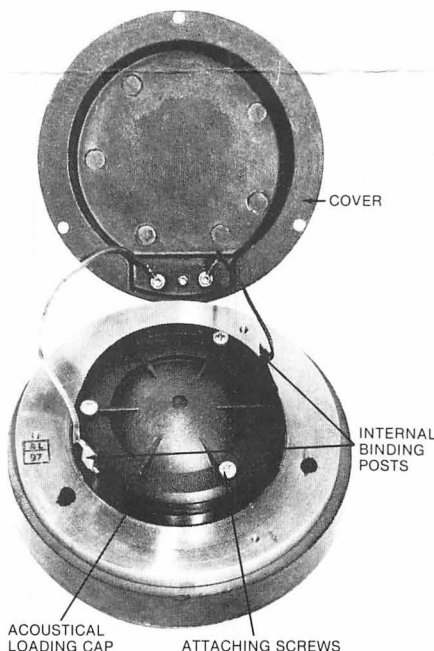
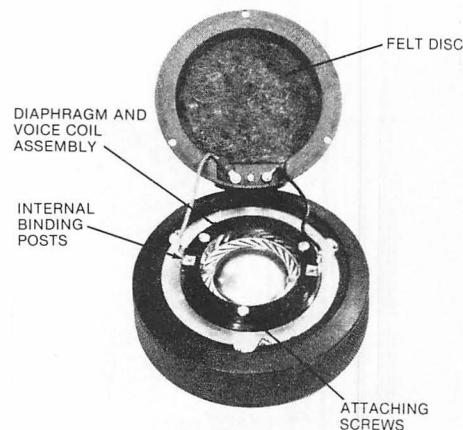

Figure 2. Model 902-8T Driver
Figure 3. Models 902-8A and 902-16A
4. Lift cover from driver and remove two leads from internal binding posts; set cover aside. Note that Model 902-8T is equipped with an acoustical loading cap (Figure 2); Models 902-8A, 902-16A and 908-8A are provided with an acoustical absorbent felt disc (Figure 3), instead of a loading cap.
5. Remove three screws securing acoustical loading cap (Figure 2), or diaphragm and voice coil assembly (Figure 3). For Model 902-8T, set aside loading cap.